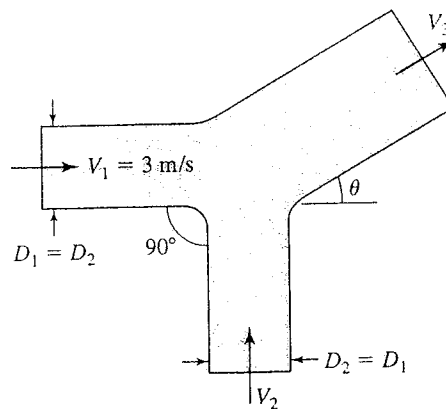

Figure 4
- 2 (b) A plan flow geometry shown in Figure 4. The two (2) input streams are equal in velocity. The horizontal stream is water and the vertical stream is oil (890 kg/m^3). Determine the velocity in term of magnitude and vector of the exist stream. (8 marks)